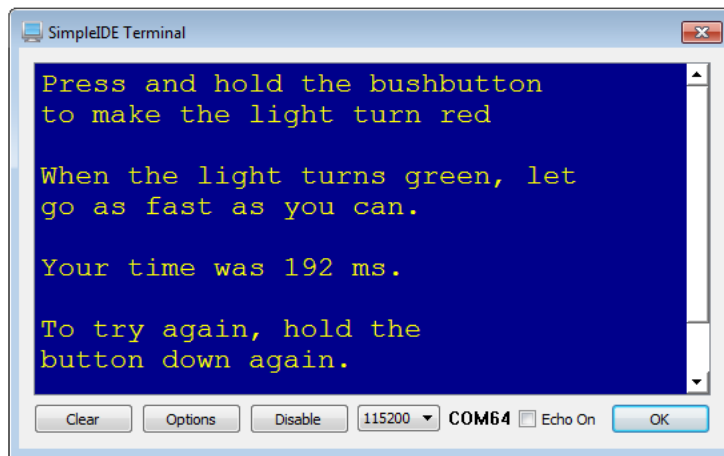

Figure 3-17
- Follow the prompts on the Debug Terminal (see Figure 3-17).